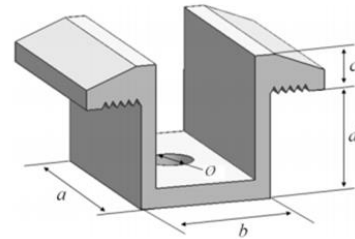
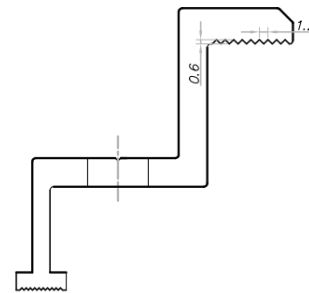
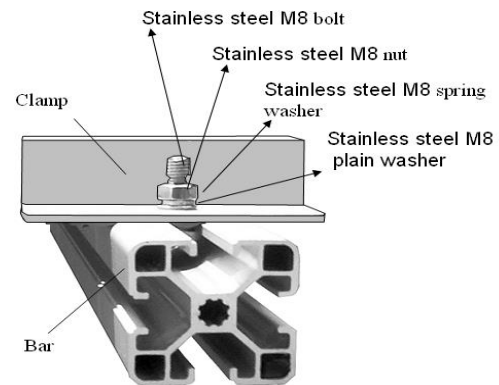

Fig. 10 Schematic diagram of the mid clamp
Fig. 11 Schematic cross section of the fringe clamp
Fig. 12 Schematic diagram of the fringe clamp
① Place the module on the two supporting rails (not provided by Chint) which should be made with stainless material and treated with an anti-corrosion process (e.g. hot dipped galvanizing). Each PV module needs at least four clamps to be fixed. The module clamps should not come into contact with the glass and should not deform the frame, otherwise they may cause module damage.
② Be sure to avoid shadowing effects from the module clamps. Weep holes on the module frame must not be closed or obscured by the clamps. The clamp must have at least 8mm but no more than 11mm overlap with the frame of the module (The clamp section can be changed under the premise of ensuring reliable installation).
③ The top surface of the rail contacted with module frame should be equipped with grooves compatible with an M8 bolt.
④ If the grooves are not provided, holes of a suitable diameter may need to be drilled to allow bolts attaching to the rail at the same locations as mentioned above.
⑤ Ensure that the mounting sequence of each clamp is in the order of flat washer, spring washer and nut.
⑥ There are two types of clamps, the mid clamp shown in Fig 10 and the fringe clamp shown in Fig 11 and Fig. 12. The mid clamp has dimensions of a ≥ 40 mm, b ≥ 26 mm, c ≥ 5 mm, d ≥ 28 mm, $\varnothing = 9$
⑦ To prevent modules from coming off the fixed device after installation, it is suggested to choose fringe and mid clamps and make contact with the A side of the frame with groove patterns. Suggest to have 9 patterns with a space between 2 adjacent patterns of 1.2mm and a depth of 0.6mm, as shown in figure 11.